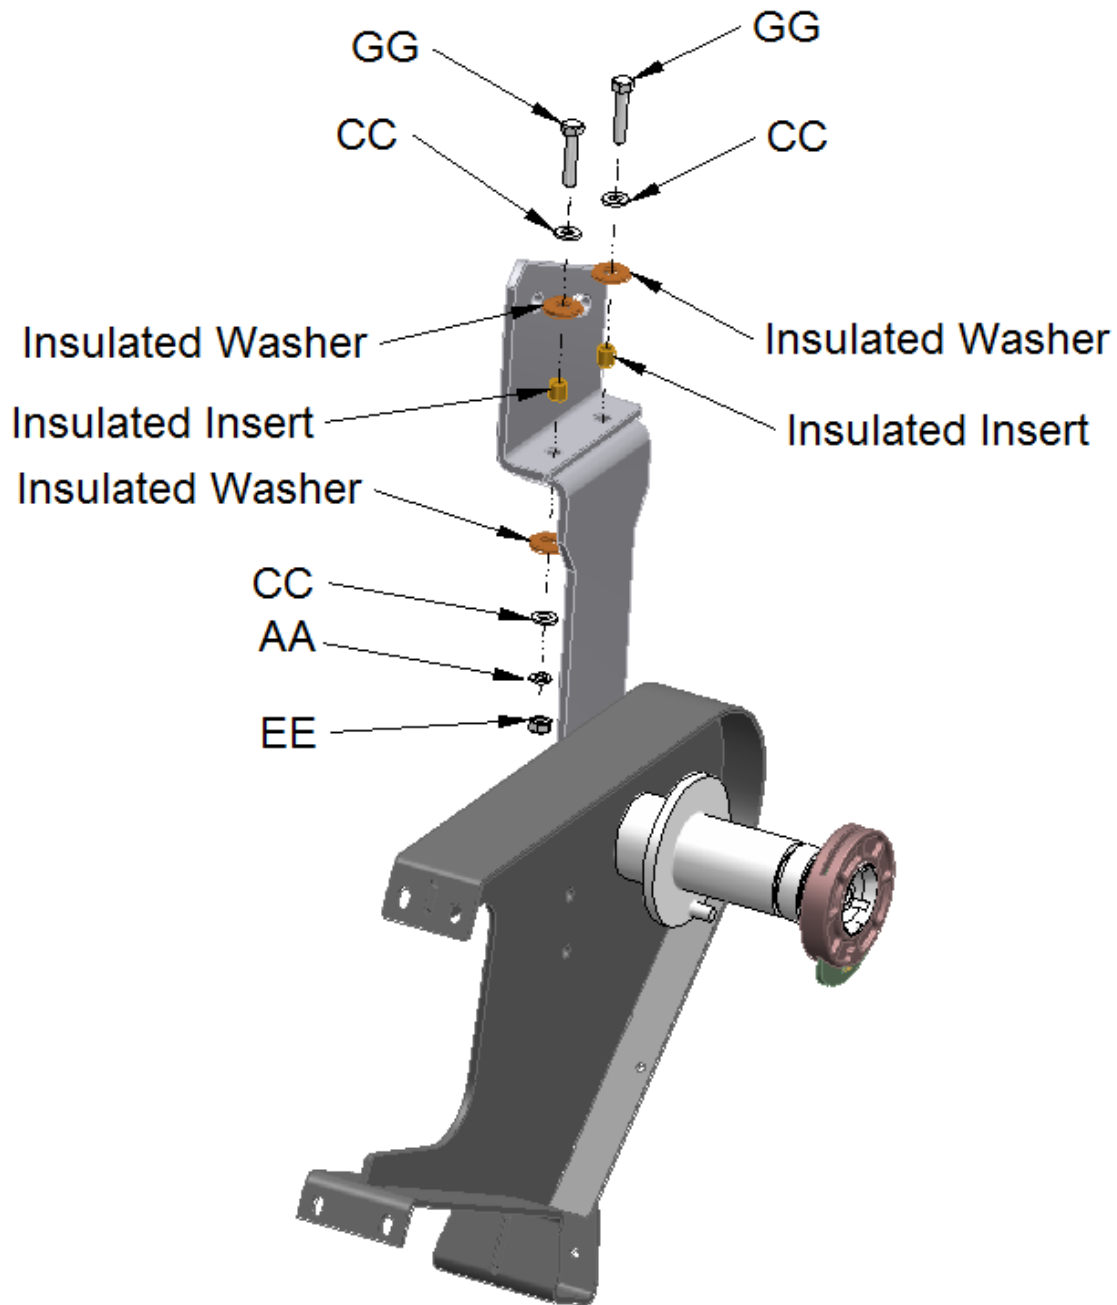

Figure 6
7. Install M26044 flux tank stabilizer bracket to the bale as shown below in Figure 6. Use the insulators you saved from step 5.